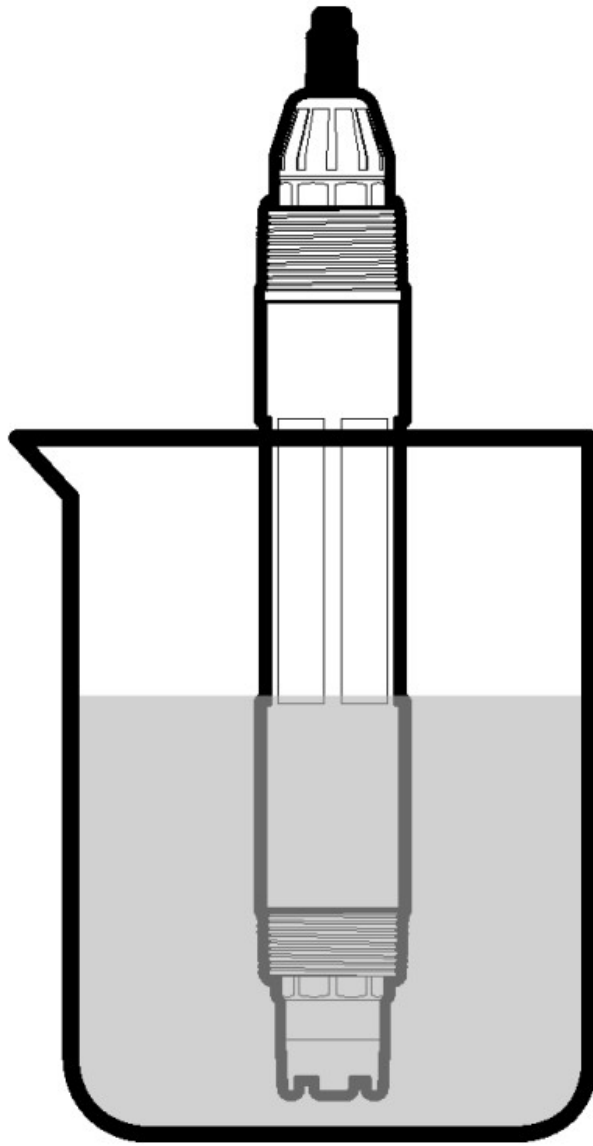

Figure 4 Sensor in reference solution
1. Put the sensor in the first reference solution (a buffer or sample of known value). Make sure that the sensor portion of the probe is fully immersed in the liquid (Figure 4).